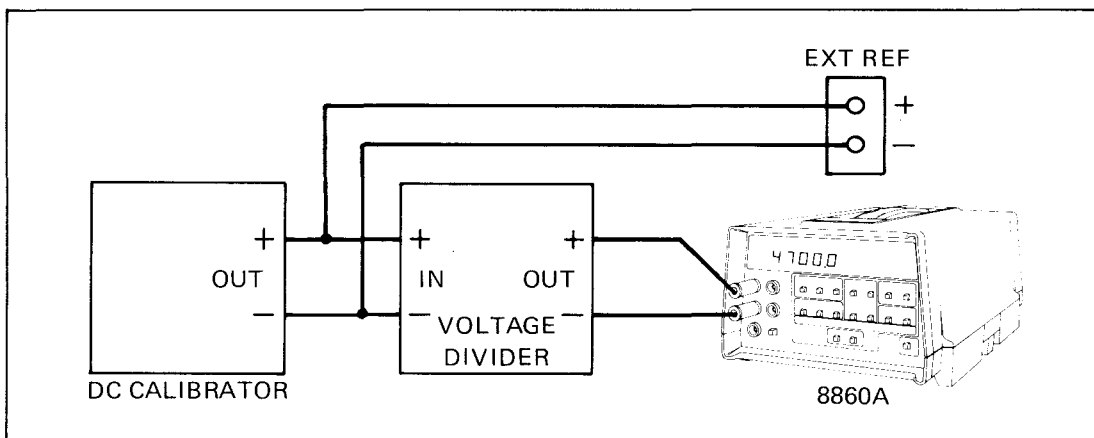

Figure 5-1. DC External Reference Test
1. Complete the equipment connections shown in Figure 5-1.